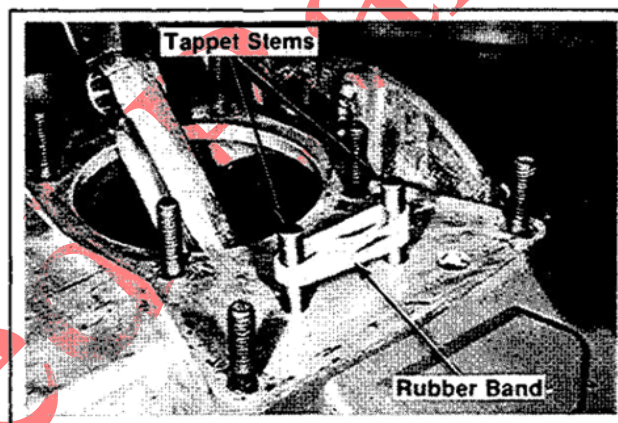

Figure 11-13. Holding Tappets (#2 Side) Using Rubber Band.
2. Put a rubber band or tape around the tappet stems in the #2 crankcase side. This prevents the tappets from falling into the #1 side when reassembling crankcase. Refer to Figure 11-13.